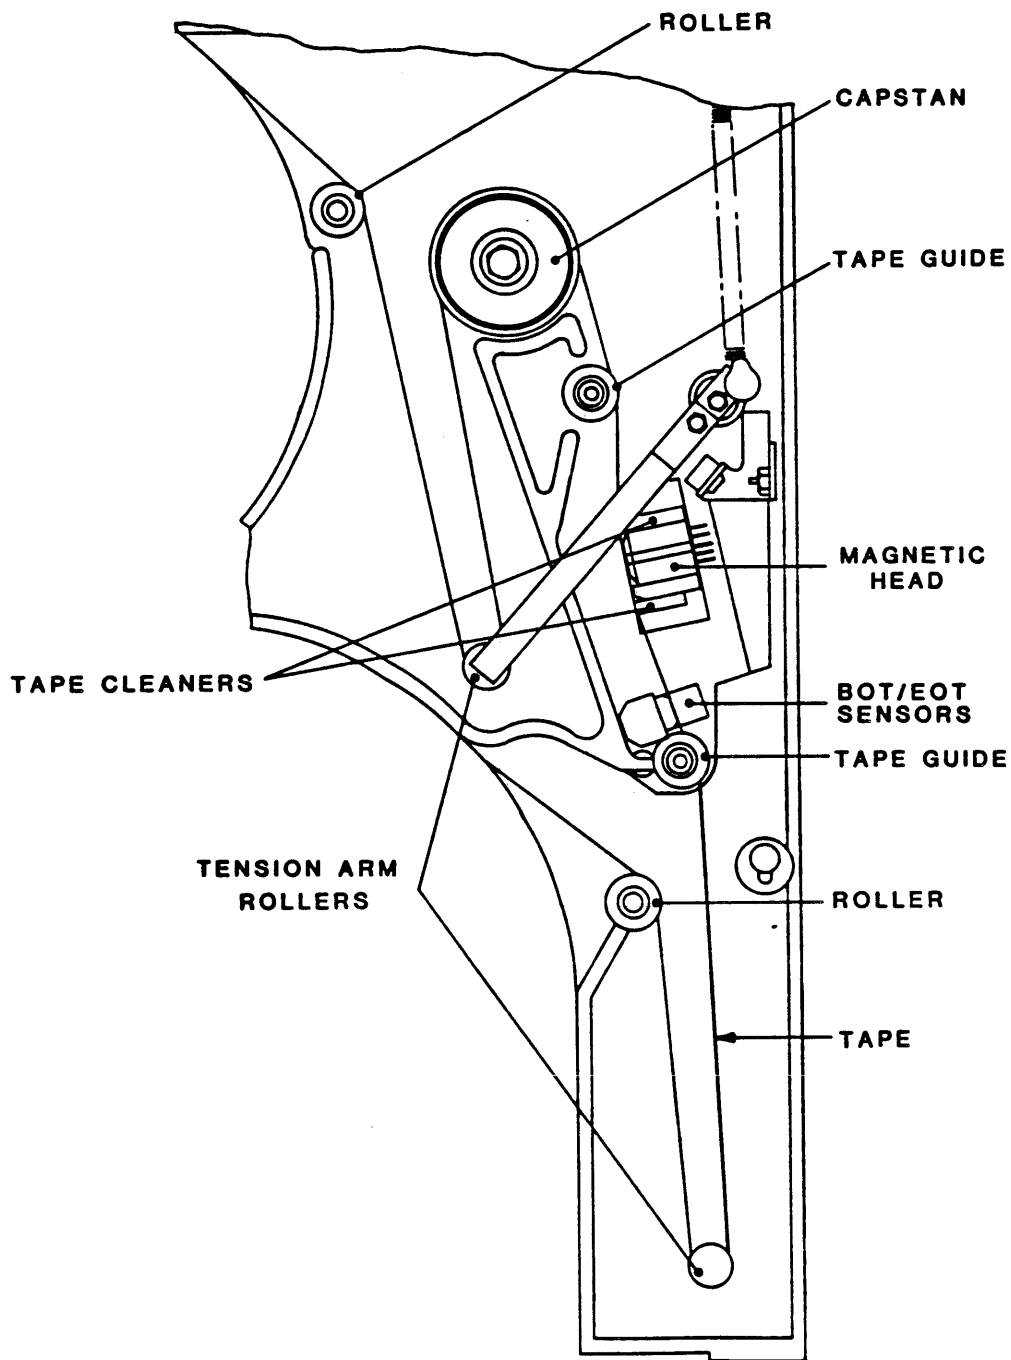

Figure 4-2 Tape Path Cleaning
4.1.2.3 TAPE PATH CLEANING (Figure 4-2)